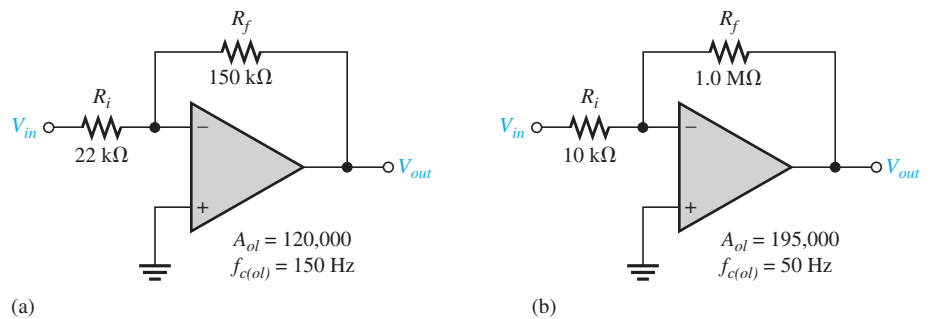

FIGURE 7-29
- Which of the amplifiers in Figure 7-29 has the smaller bandwidth?